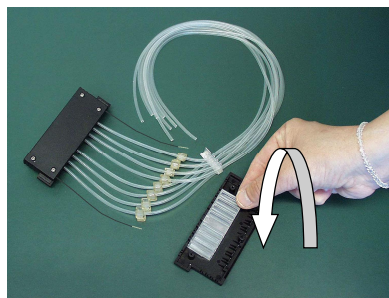

Figure 5-42. Placing the sight window
7. Place the plastic sight window with the grooves pointing upwards onto the bottom cover of the upper part of the dispensing cassette, if it is not already there (Figure 5-42).